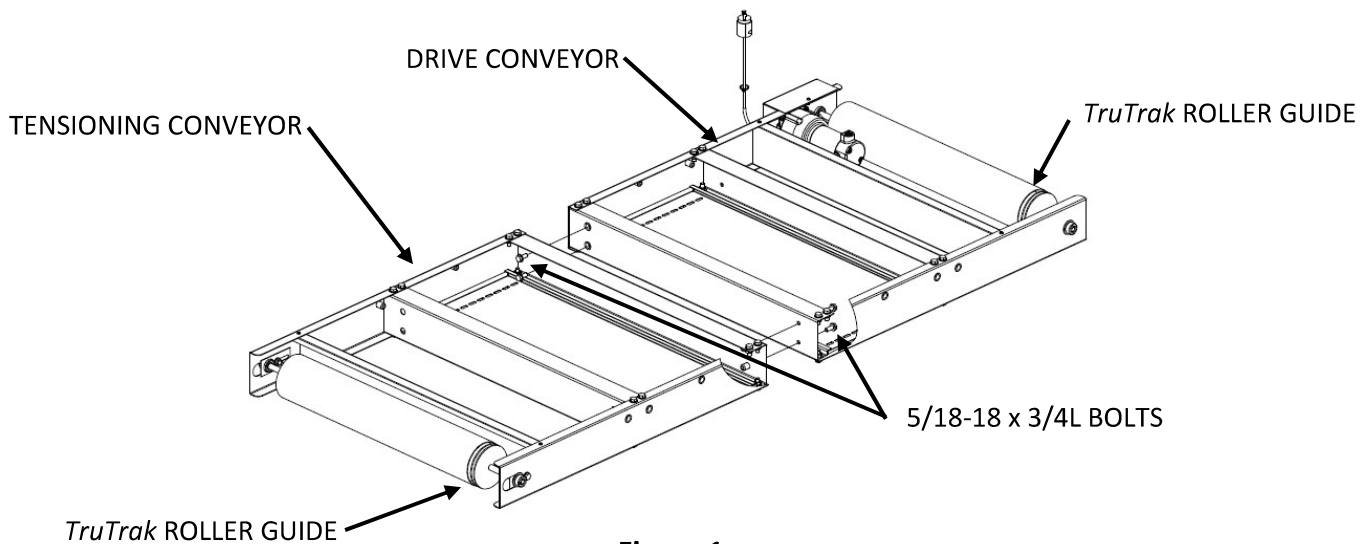

Figure 1
1. Place the **DRIVE CONVEYOR ASSEMBLY** on the covered floor (see **Figure 1**).